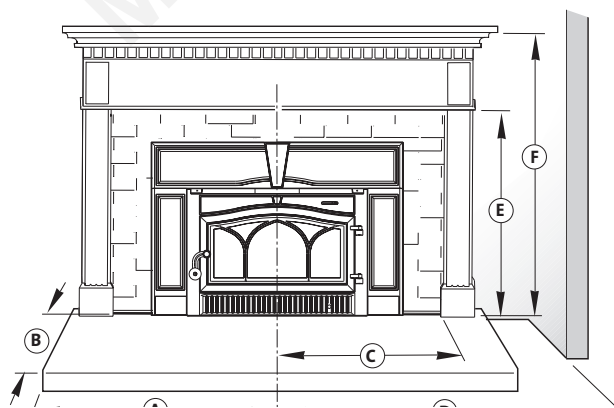

Figure 6. Minimum clearance to combustible materials.
**U.S. & Canada: Side Protection: -** Protection must extend a minimum 18 1/2 in. to both sides of the center line of the insert. See fig 6, A.